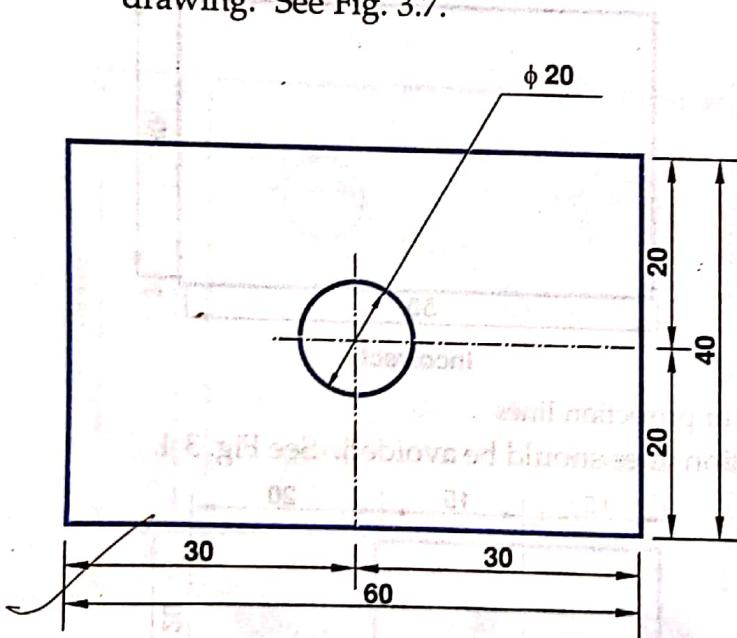

Fig. 3.7 Aligned system of dimensioning
- (i) **Aligned system** : In an aligned system, all the dimensions are placed above the dimension line such that, they may be read either from the bottom or from the right hand side of the drawing. See Fig. 3.7.